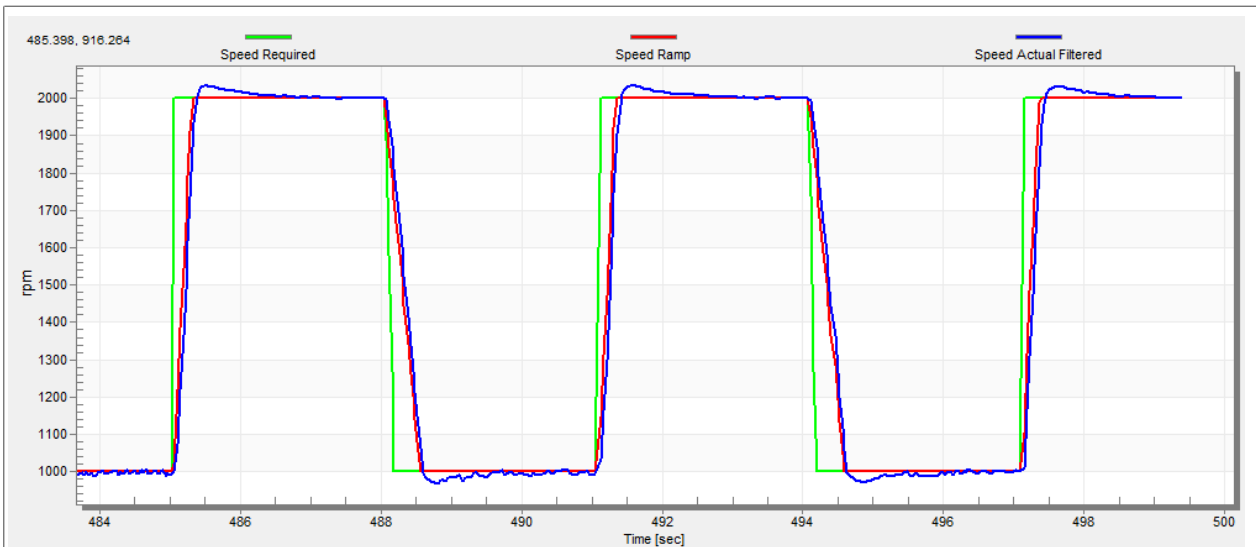

Figure 34. Speed controller response—speed loop response with a small overshoot
- The speed loop response has a small overshoot and the “Speed Actual Filtered” settling time is sufficient. Such response can be considered optimal (see Figure 34).